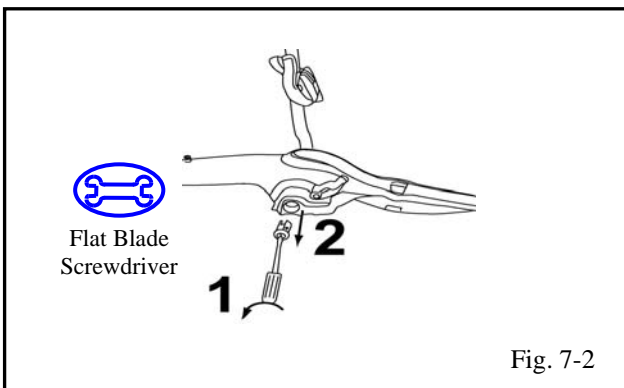

Fig. 7-2
-  (b) Unscrew (1/4 turn) and pull out the socket cap.(Fig. 7-2)